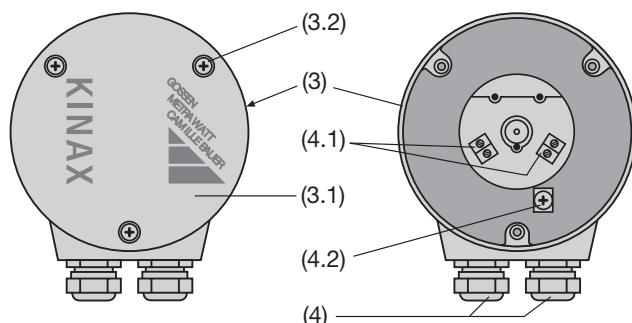

Fig. 9. Rear (3) with terminals (4.1) and (4.2) and cable glands (4).
In the case of transmitters fitted with **screw terminals** and **cable glands**, there are 4 screw terminals (4.1) plus 1 ground terminal (4.2) which are accessible after removing the cover (3.1) (see Fig. 9). The maximum wire gauge the terminals can accept is 1.5 mm².
- ... with **screw terminals** and **cable glands**, remove the 3 screws (3.2) and the cover (3.1) (Fig. 9, left).